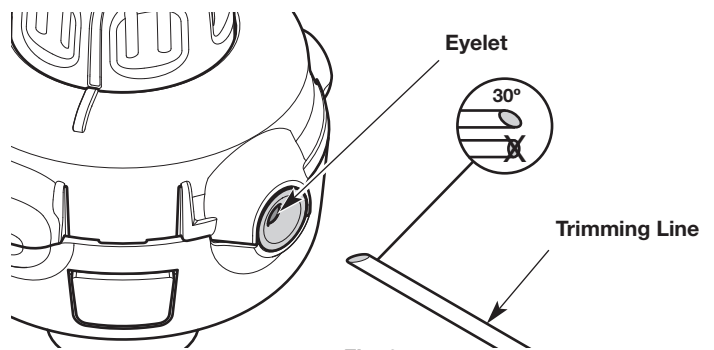

Fig. 24
- Cut two 10-foot (3.0 m) lengths of new trimming line. Cut one end of each line at a 30 degree angle (Fig. 24).
- Insert one of the lines into an eyelet on the cutting head (Fig. 24). Use the angled end and push the line in about 3 inches (7.5 cm). Repeat this process with the other line and remaining eyelet.